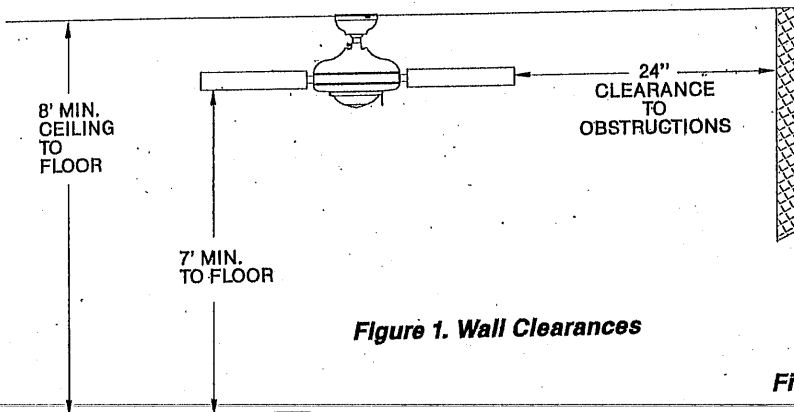

Figure 1. Wall Clearances
- B.** Installation hardware is included for a standard drywall or plaster ceiling. You will need a 4" x 1-1/2" or a 4" x 1/2" outlet box and wire nuts (2) which can be purchased from any hardware store or electrical supply house.
- C.** The fan blades must be mounted at least 7' above the floor. For maximum efficiency, they should not have any obstruction (walls, posts, etc.) within 24" of the blade tips. See Figure 1 for mounting distances.